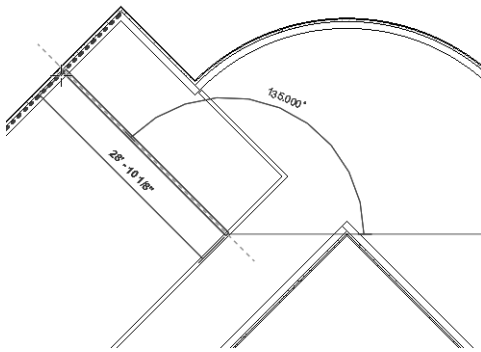

Figure 3-68 Sketching the third interior wall
7. Move the cursor upward towards the left such that it subtends an angle of 135 degrees with the horizontal until it reaches the exterior wall and the **Nearest** object snap is displayed, as shown in Figure 3-68. Click to specify the endpoint of the wall.